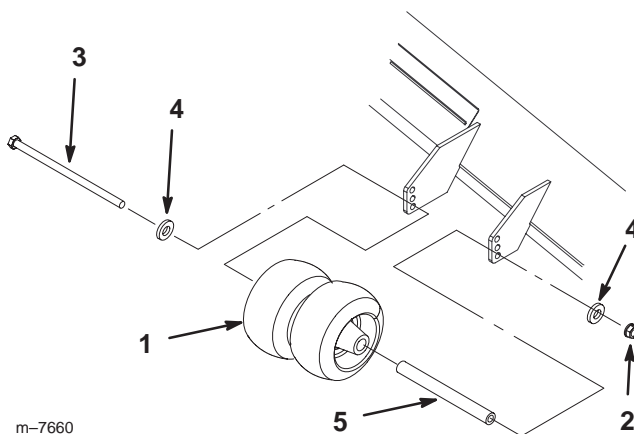

Figure 3
2. Install the center gage wheels with the previously removed bolt, spacer, small washer, and nut (Fig. 3).
3. Remove the hairpin cotter and washer on both front height-of-cut posts (Fig. 3). Discard the washers, these are **not** to be used for adjusting the height-of-cut.